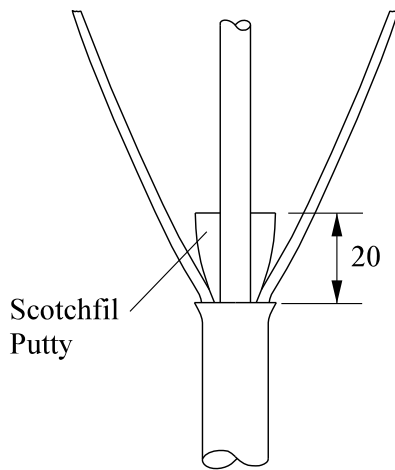

Fig 2
6. Separate the three phase cores and placing and pressing the ‘Y’ piece well down in between the cores – Fig 2.